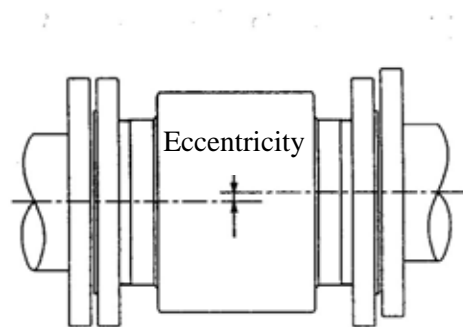

Figure 4.1 Pipe leaning and axis misplacement
- (1) Before installing pipes, check for any leaning, misplacement or eccentricity as illustrated in Figure 4.1. An attempt to unreasonably connect pipes that are inclined may lead to a detector breakdown or fluid leakage. Connecting pipes in an eccentric state may also cause wears and tear of linings and grounding rings, as well as measurement errors.